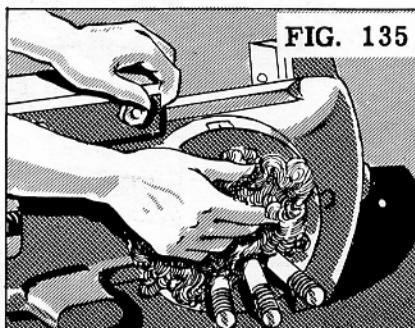

FIG. 135
5. Clean around the vise screw and other parts that were inaccessible before the vise was taken off the table (Fig. 135).